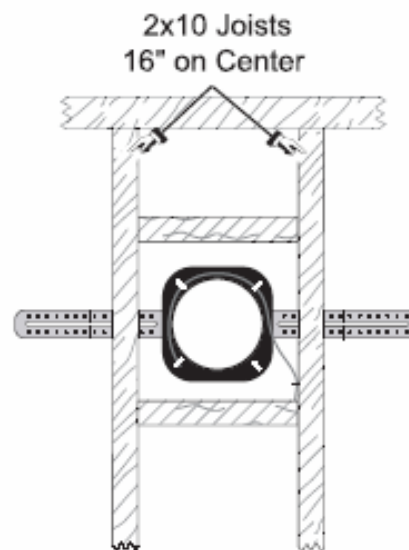

Figure 7
- G. After the speaker bracket is installed, place the speaker wire through the speaker wire retaining clips to protect it from dry-wall saws and ensure easy location at finish time. (See **Figure 7**)